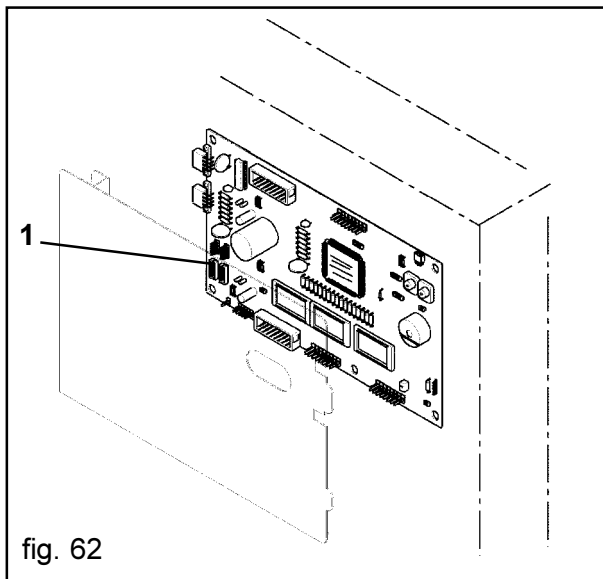

fig. 62
The connection between CPU and the SAECO ELECTRONIC KEY device occurs by means of direct connection to the CPU card; check the position of the connector on the card for the connection (ref. 1, fig. 62).
- Turn off the machine and insert the SAECO ELECTRONIC KEY device into the appropriate connector on the CPU card (ref. 1, fig. 62); then turn on the machine.
- To read the machine configuration to be transferred to the SAECO ELECTRONIC KEY, press key 4 on the keyboard (with ENTER function).
- For the writing of the machine configuration with the content of the SAECO ELECTRONIC KEY, press key 1 (with INCREASE + function)
- The display screen asks the following question "KEY > CPU?": press key 4 on the keyboard (with ENTER function) to confirm.